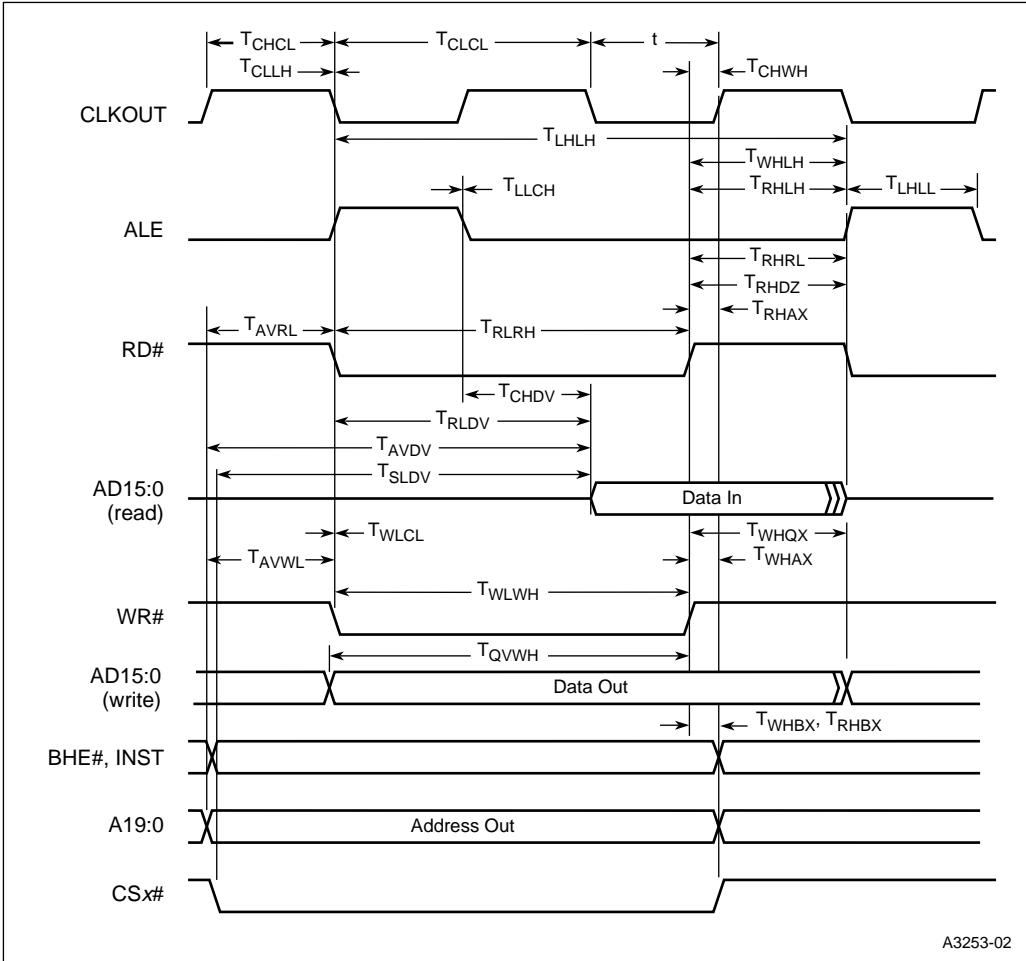

Figure 8. System Bus Timings, Demultiplexed Bus Mode
6. The READY timing diagrams (Figures 8 and 10) were replaced by examples that reflect the new  $T_{CH1YX}$  and  $T_{CH2YX}$  specifications.